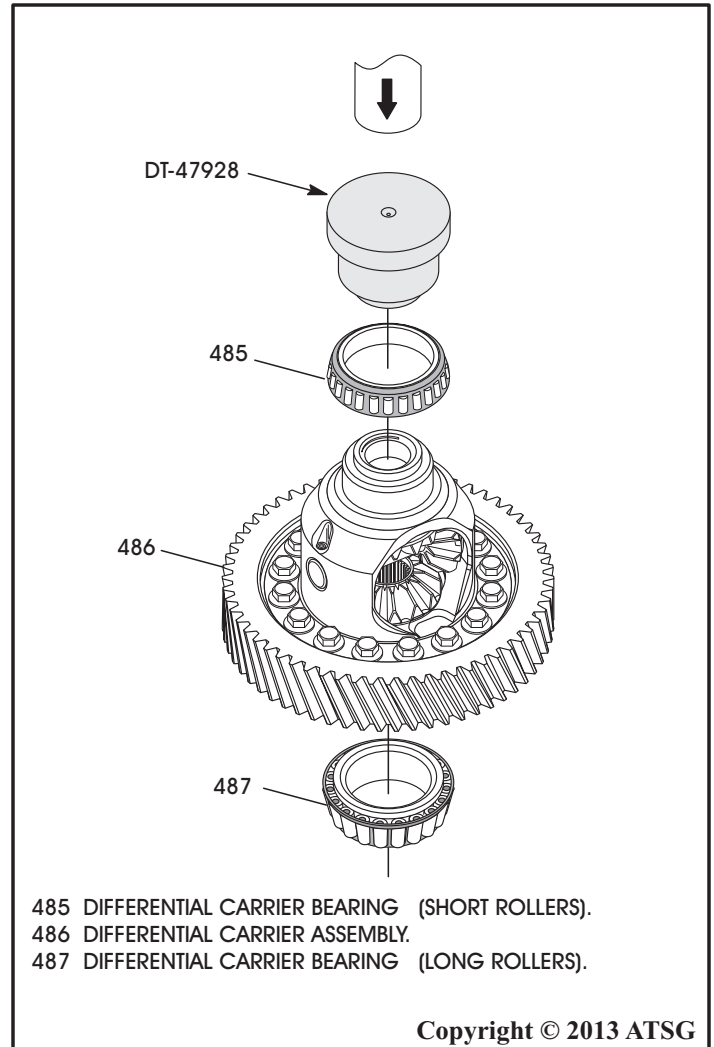

Figure 87
6. Install the right side differential carrier bearing (Short Rollers) using DT-47928 and hydraulic shop press, as shown in Figure 87.